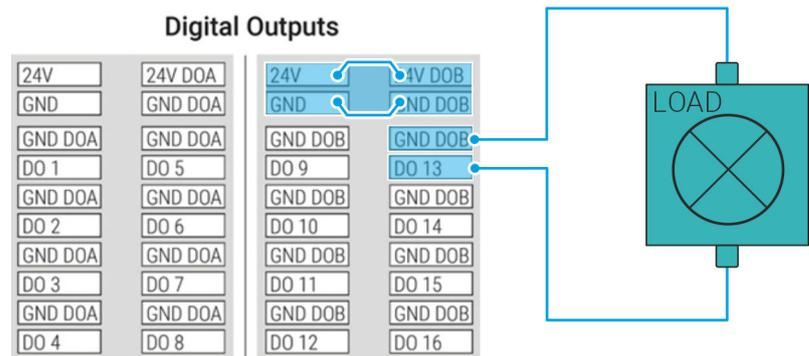

Fig. 76 Connecting an electronic load (example)
01. When connecting an electronic load via the digital output, note the example configuration in Fig. 76.